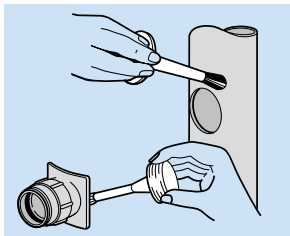

Fig. 37
- Apply solvent cement 9100 to all mating surfaces (Fig. 37).